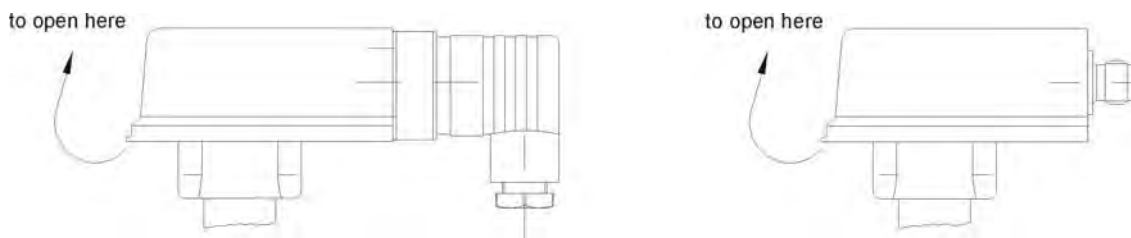

Fig.15
- ⇒ In order to adjust the switching unit, open the cover of the switching head (Fig. 15)